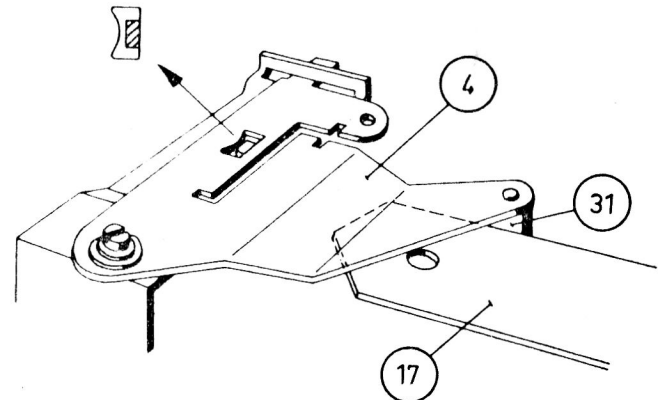

Fig. 11
2. In the stopping position, the cam of the central pin 234 must be on the extreme outside. The tail of the central pin must touch the changing lever 4 (see Figure 11).